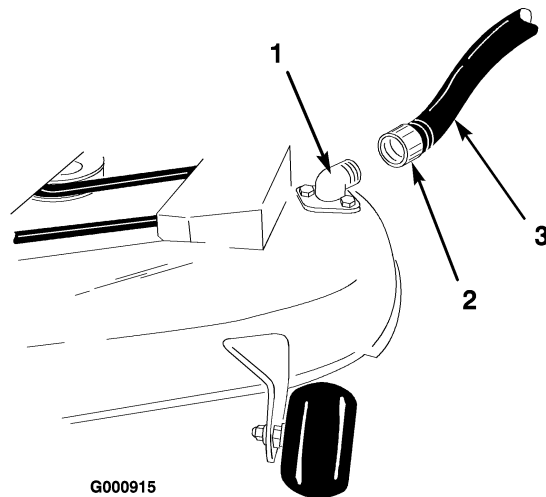

Figure 53
4. Attach the hose coupling to the end of the mower washout fitting, and turn the water on high (Figure 53).